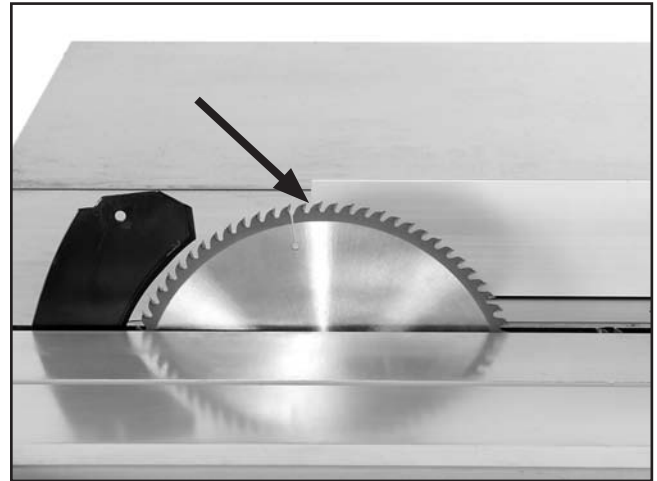

Figure 55. Rip fence even with center of blade (blade guard removed for clarity).
5. Slide the leading end of the rip fence so it is even with the center of the main saw blade as shown in Figure 55.